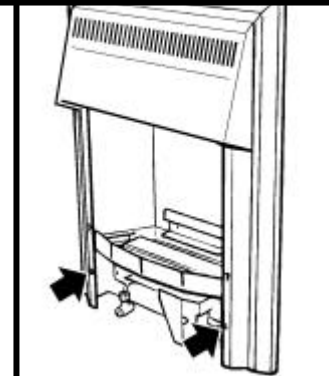

Fig. 23 Outer surround sides attachment - Monaco
9.1.2 Secure the surround sides to the convection box brackets with the two screws provided (See figure 23).